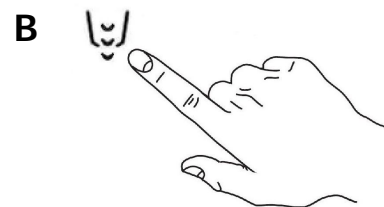

Fig.23
- 2- Press button "B" to start drain out the water and wait until all the water is completely drained out from the tank. (Fig.23)